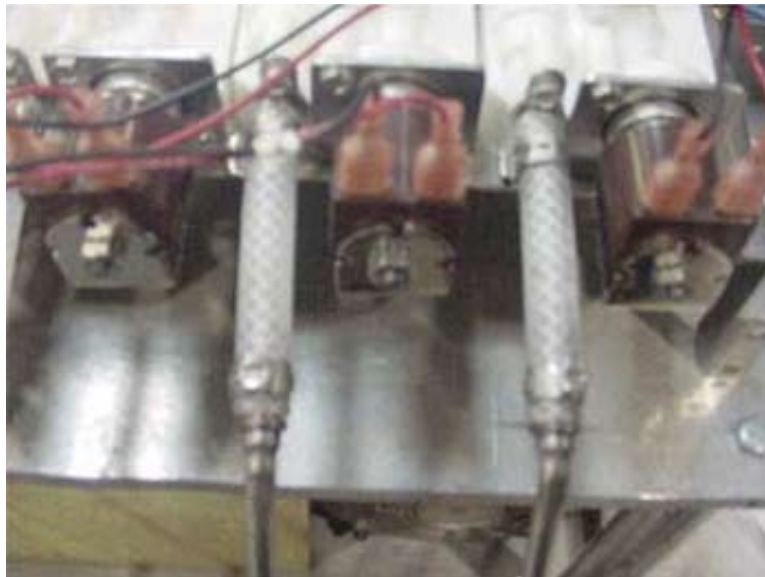

Figure 1.
3. Remove the water inlet fittings from the back of the valve (Figure 1.) These are the fittings attached to the 3-inch piece of tubing that runs from the manifold. Also remove this tubing from the manifold. Discard both the fitting and the tubing for all valves.